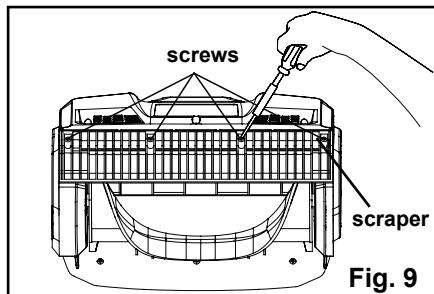

Fig. 9
- Remove the four (4) screws that are located beneath the impeller that secure the scraper to the housing using a phillips screwdriver. (Fig. 9).